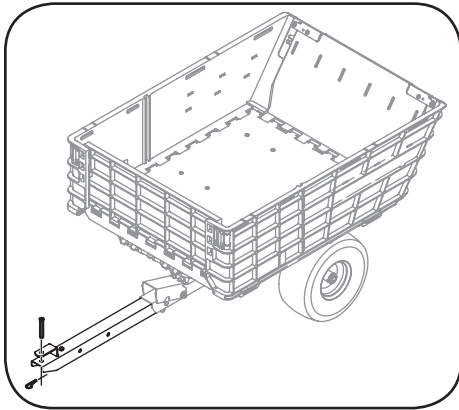

Figure 5-1
2. Carefully slide the tongue hitch onto the hitch bracket on the back of your tractor and secure in place with the hardware removed in Step 1. See Figure 5-1.